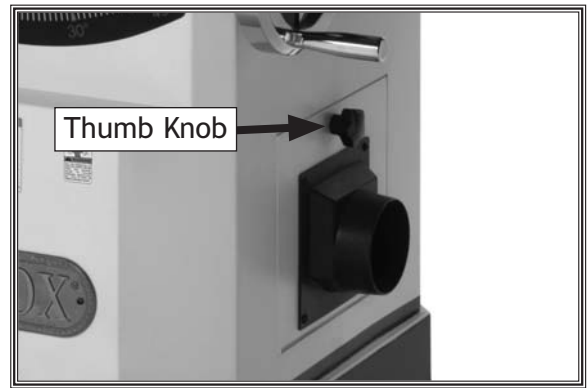

Figure 12. Dust port installed.
5. Insert the lip of the lower part of the dust port into the cabinet and tighten the thumb knob to secure (see Figure 12).